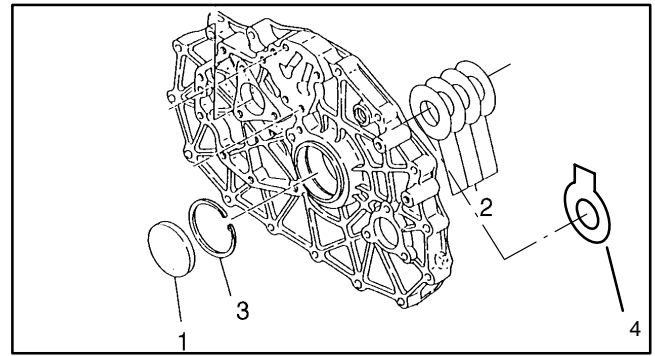
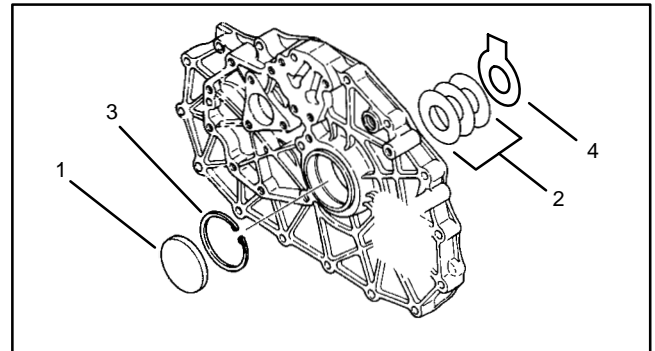

Figure 40
Figure 41
**IMPORTANT:** Make sure to note the type of shim set removed from the center plate. Early versions of the centerplate have either four shims (Item 2) without tabs or one thick shim (Item 4) with a tab (Fig. 40). Newer versions of the center plate have one tabbed shim (Item 4) with three tabless shims (Item 2) (Fig. 41).
7. Loosen capscrews and separate center plate from transaxle case. Note dowel pins in transaxle case. Remove seal cap (Item 1), shims (Item 2 and/or 4) and snap ring (Item 3) from center plate (Fig. 40 and 41).